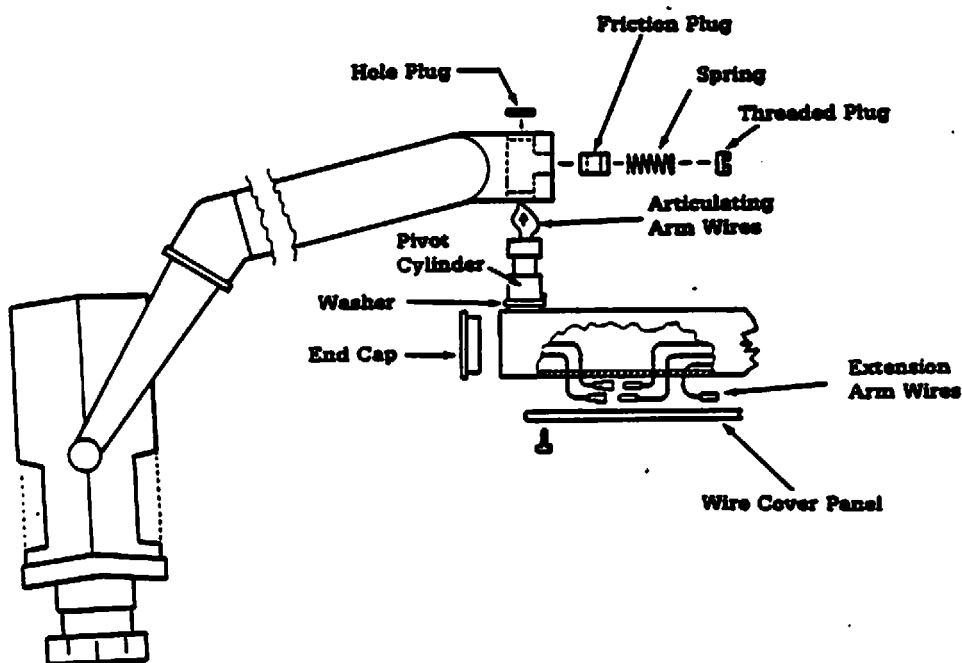

Figure 3. Assembling The Phototherapy Light
4. Attach the lamp-head and articulating arm assembly to the transformer housing (Figure 3):
- g. Insert the brass friction plug, concave surface first, into the hole in the rear of the articulating arm. Insert the spring and threaded plug to hold the friction plug firmly against the pivot cylinder (Figure 3). Tighten the plug until it is flush with the housing.